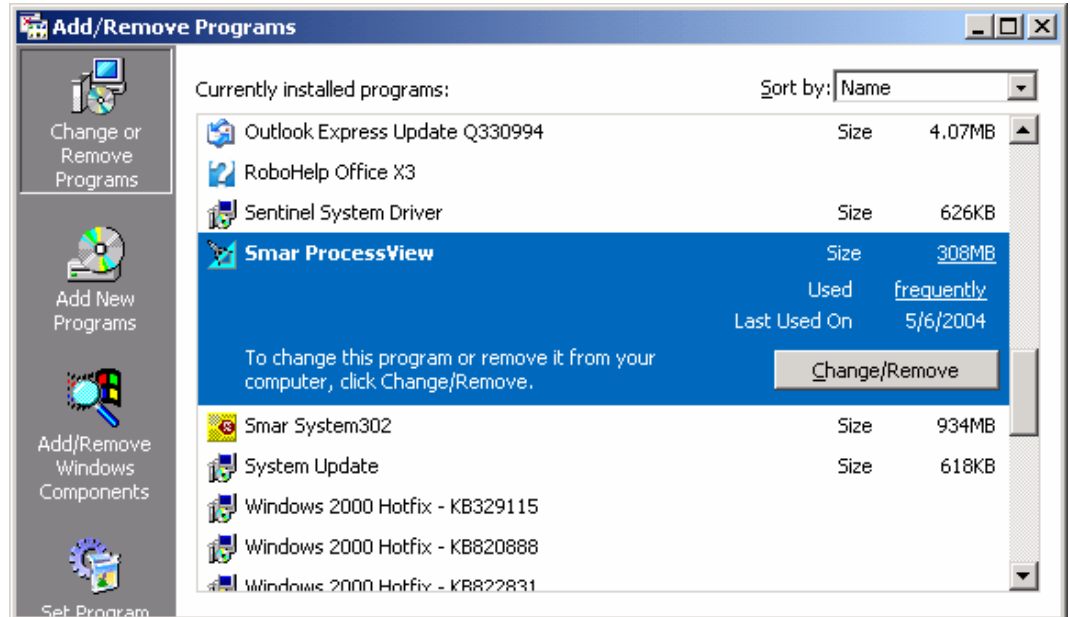

Figure 2.11. Add/Remove Programs Properties
- From the list of programs that you can remove, select **Smar ProcessView**, as shown in **Figure 2.11**.